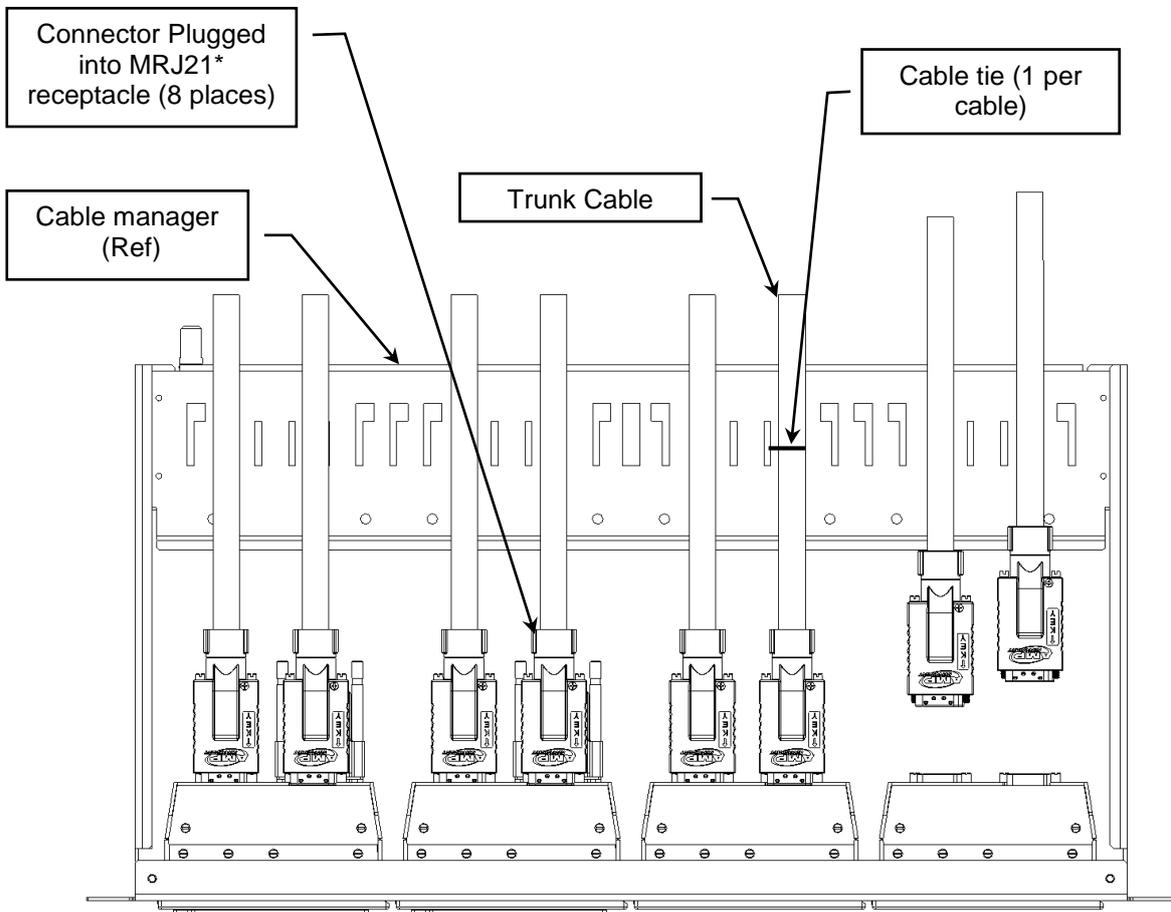
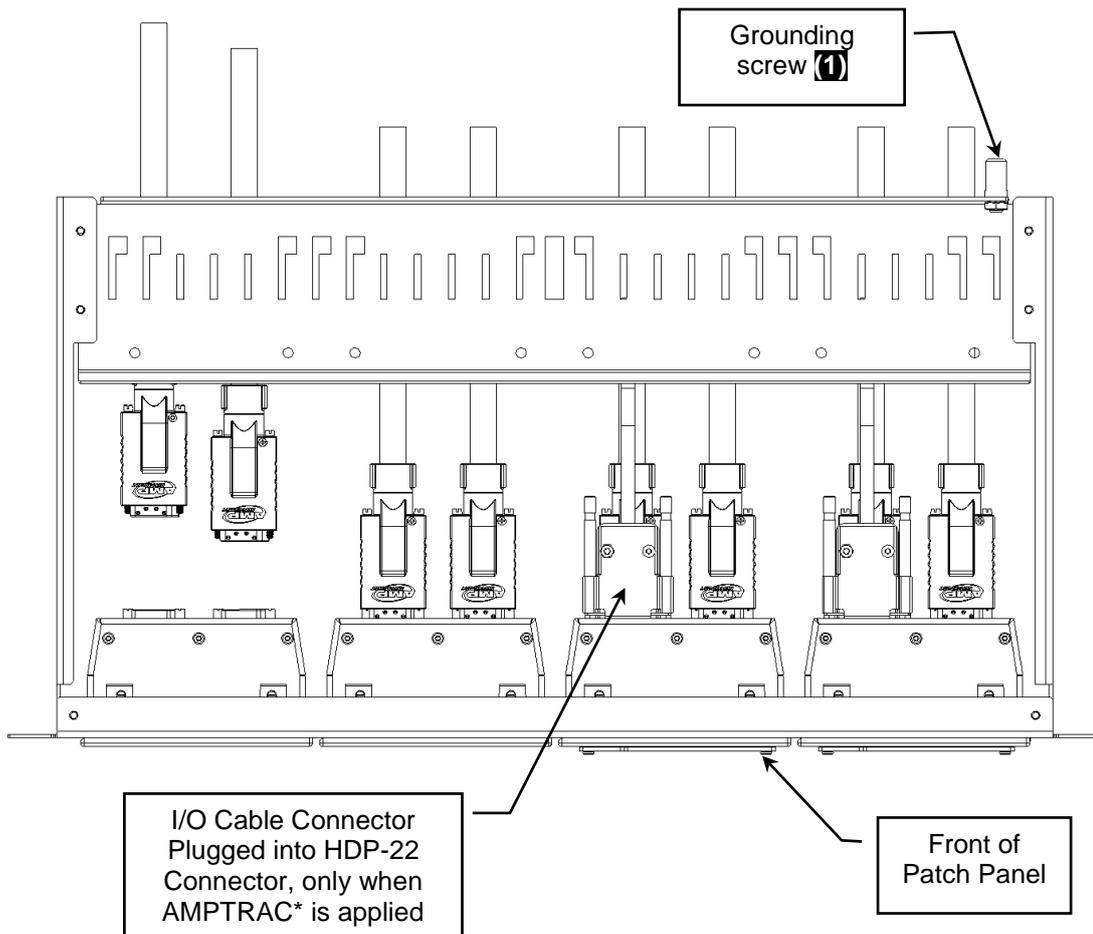
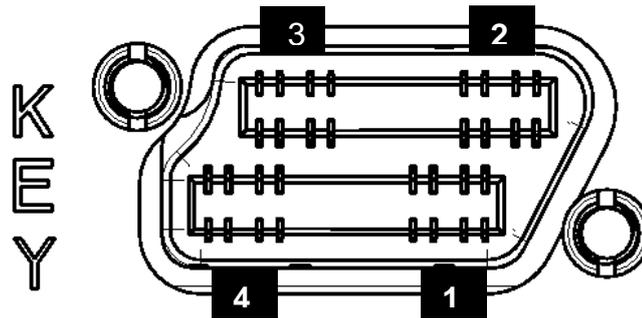

Figure 2.
Figure 3
Figure 5
- 3.3. Plug a connector (from the trunk cable) into each MRJ21* receptacle (at the back of the patch panel). Refer to Figure 2. Make sure to align the keying features of the connector and receptacle according Figure 5.
NOTE For installation procedure for the wiring distribution bracket, refer to Figure 2 and Figure 3, back cable manager instruction and references per your sales representative.